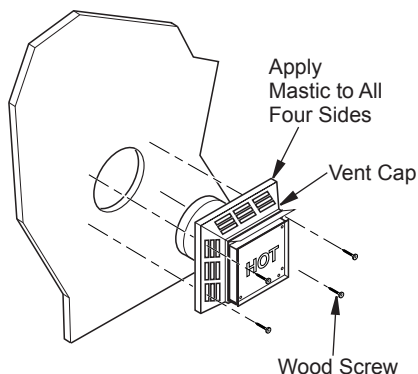

Figure 10 - Installing Horizontal Vent Cap (Noncombustible Exterior)
6. **Noncombustible Exterior Wall:** Position horizontal vent cap in center of 8 1/2" round hole and attach to exterior wall with four wood screws provided. Before attaching vent cap to exterior wall, run a bead of non-hardening mastic (pliable sealant) around outside edges to make a seal between it and outside wall (see Figure 10, page 11).